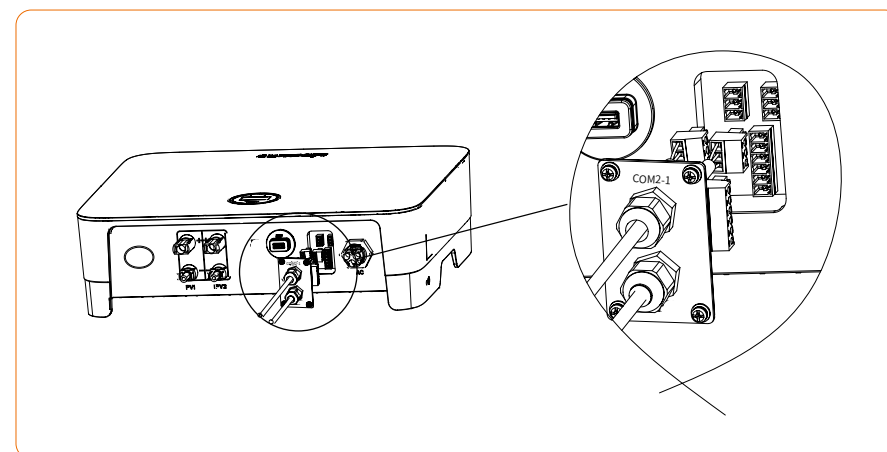

Figure 4-25
- ③ Insert the cable to the port in the 3/6pin connector and fasten with a screwdriver.
- ④ Insert the 3/6pin connector into the 3/6pin connector inside the inverter, and screw the COM2 plate back with a cross screwdriver, as shown in Figure 4-25: